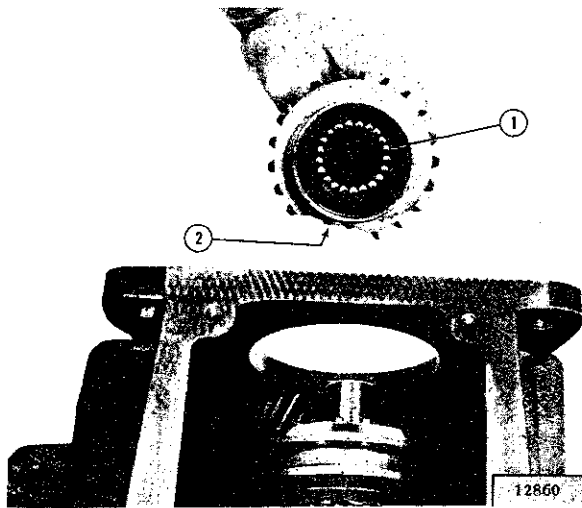

FIG. J-29—MAIN DRIVE GEAR ROLLER BEARINGS INSTALLED
j. Install main drive gear roller bearings using low melting point grease to hold them in place. Refer to Fig. J-29.